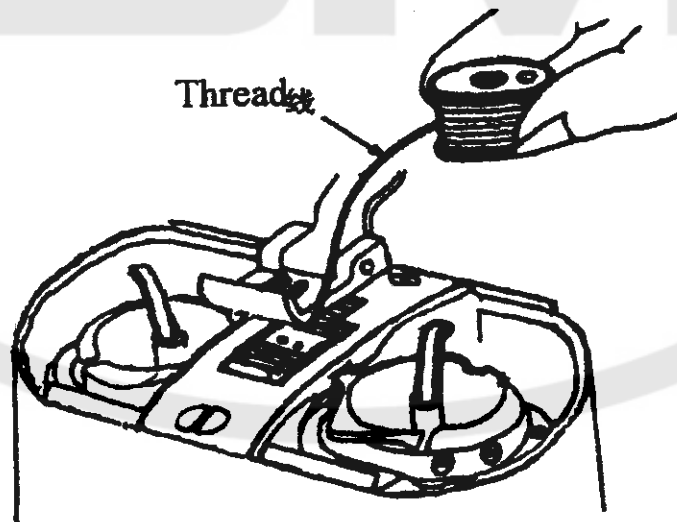

Fig. 6
11. How to place the Bobbin into the Hook (Fig.6):
Pull the bobbin thread about 5cm. Hold the bobbin as shown in fig.6, then place the bobbin into the hook base.